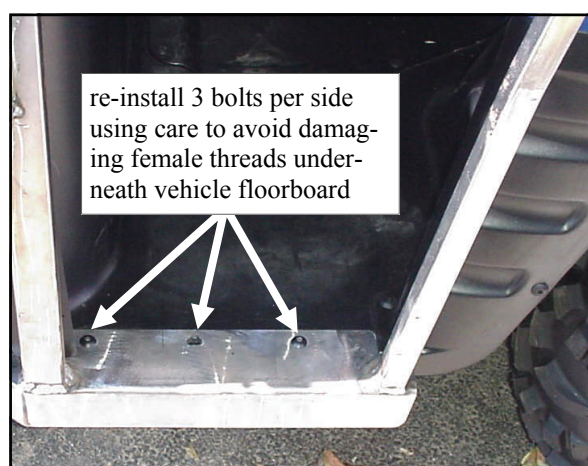

Fig. 3.3 View from passenger's side
3.3 Re-install the three original equipment floorboard screws through the bolt holes in the floorboard of the side frame. See fig. 3.3. Reminder: these are self-tapping screws that were factory installed. Use care to avoid cross-threading or damaging the original female threads underneath the vehicle floorboard. Leave bolts loose.